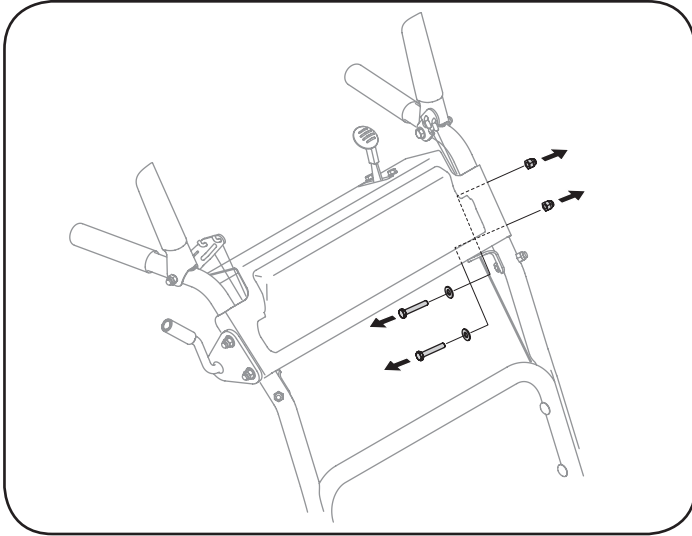

Figure 5
1. Remove the following from the left side of the upper handle, Figure 5. The hardware removed can be discarded.